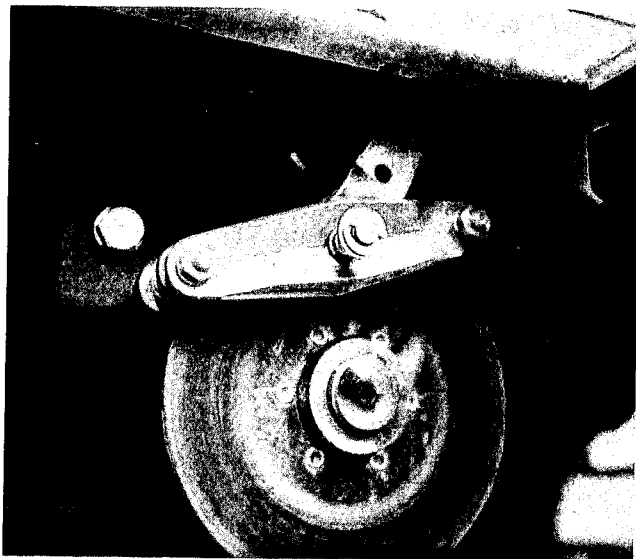

Fig. 4 M-30 Brake Unit
2. Place the new (riveted) brake disk, supplied with the kit, on the transaxle shaft as shown in Fig. 4. Use the new Woodruff key provided and check to insure that the disk moves freely back and forth on the transaxle shaft.
3. Insert the caliper assembly over the disk and align the mounting plate holes with those of the transaxle. Install the two 3/8-16 bolts and lockwashers to attach the plate to the case. (See Fig. 4.)